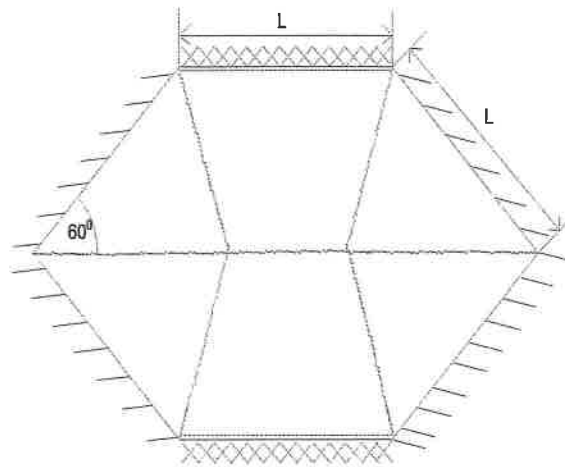

Figure Q1
c) Isotropically reinforced hexagonal slab is simply supported along four edges while fixed supported along two edges as shown in Figure Q1. The side length of the hexagonal slab is L and overall perimeter length of the slab is, therefore, is ' $6L$ '. The slab carries a uniformly distributed load of intensity ' p ' per unit area.
Determine the corresponding collapse load for the yield line pattern given in Figure Q1, assuming the yield moment per unit length of both positive yield lines and negative yield lines as ' m '.